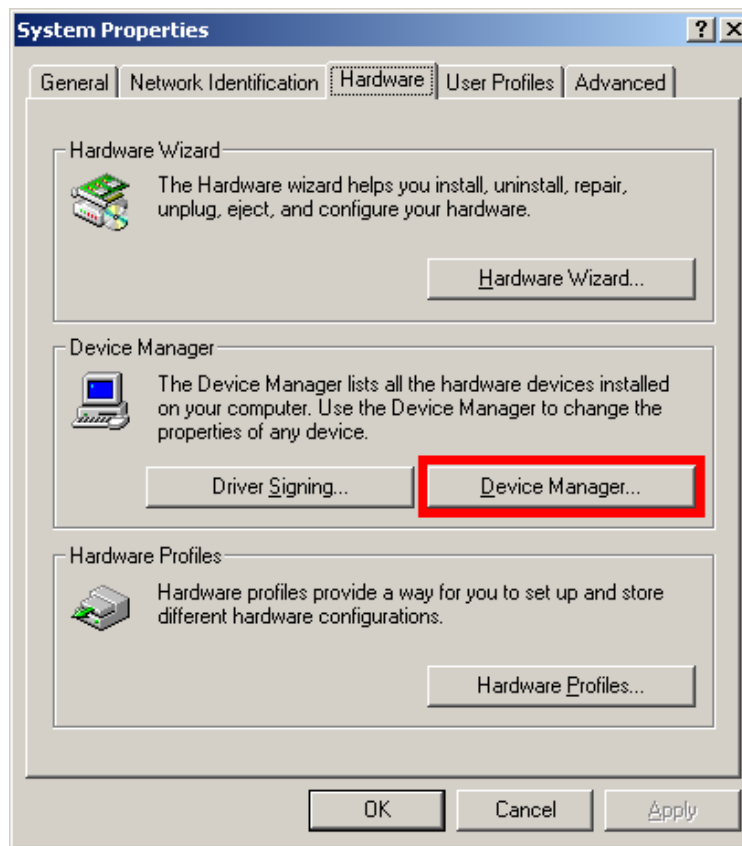

Figure 7-28: Device Manager Tab
Step 3: Click the **Device Manager** tab (Figure 7-28).